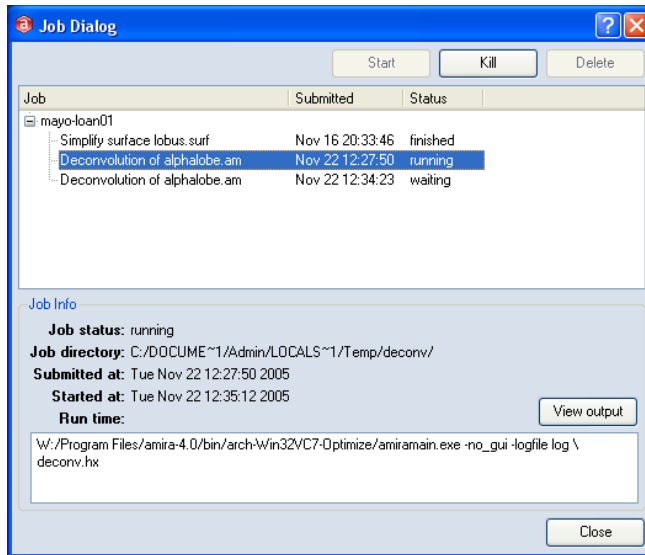

Figure 1.7: The amira job dialog showing a pending deconvolution job.
- Press the *Submit* button of the deconvolution dialog. After a few seconds the *amira* batch job dialog appears, compare Figure 1.7.